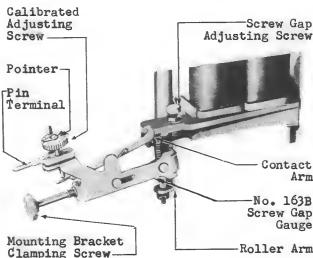

Fig. 19 - Checking Gap Between Screw Gap Adjusting Screw and Roller Arm
- (7) With the 35 type test set connected to the clutch as covered in 3.004, fully operate the clutch and visually make sure that the clutch has some screw gap. A screw gap is essential to get an indication of the point at which the adjusting screw is closest to the roller arm. Operate the down drive magnet to restore the clutch to normal.
- (8) Insert the No. 310 plug of a W2W cord into the SIGNAL BAT & GRD jack of the test set. Make sure that a 48 volt lamp is in the lamp socket and connect the black (ring) conductor of the cord to the common terminal of the clutch, or some other source of 48 volts. Operate the knife switch designated "I" to the "500 and LAMP" position.
- (9) Mount the No. 163B screw gap gauge on the roller arm as shown in Fig. 19. To do this, back off the mounting bracket clamping screw as far as possible. Hold the contact end of the contact arm down against the gauge frame. This will permit the gauge to be mounted on the roller arm without damaging the contact arm. Insert the jaws of the bracket over the vertical portion of the roller arm with the contact arm above the armature. Raise the gauge on the roller arm until it rests against the under-surface of the roller arm. Tighten the clamping screw finger tight to hold the gauge in position. Connect the white (tip) conductor of the W2W cord in SIGNAL BAT & GRD jack of the test set to the pin terminal of the gauge.